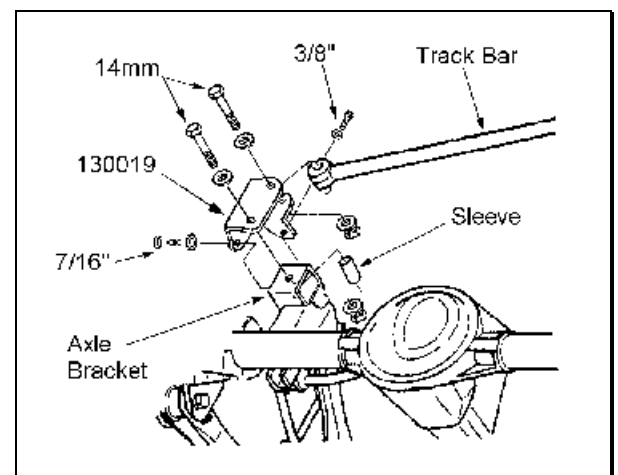

Figure 8
1. ≤ Place track bar bracket 130019 on top of the axle bracket as shown in figure 8. Insert a 14mm bolt through both brackets. Using the new bracket as a template, mark the two additional holes on the axle bracket.
3. ≤ Reinstall the track bar bracket and attach it to the axle with the sleeve and hardware from kit 860072. See Figure 8. Tighten to specifications.